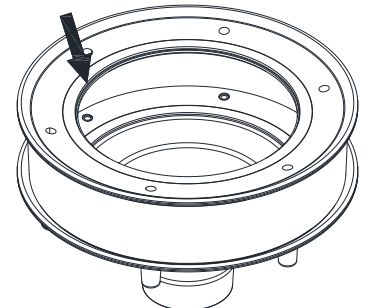

Fig. 2
Step 7 - Cut the membrane as per the roof membrane manufacturer's requirements in the center of the extension. Continue to cut outward until the precast circular edge in the extension is located (Fig 2). Once the precast edge is found, cut out circular section of the membrane by following the cutting edge.